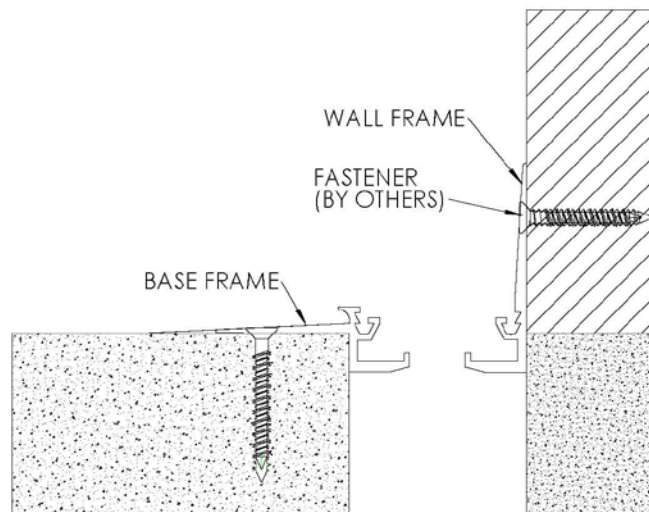

FIGURE 2
2. Position the wall frame into position, making sure the top channel is level with the top channel of the base frame. Attach the wall frame to the wall with appropriate fasteners (by others) for the wall type 18" o.c. **See Figure 2**